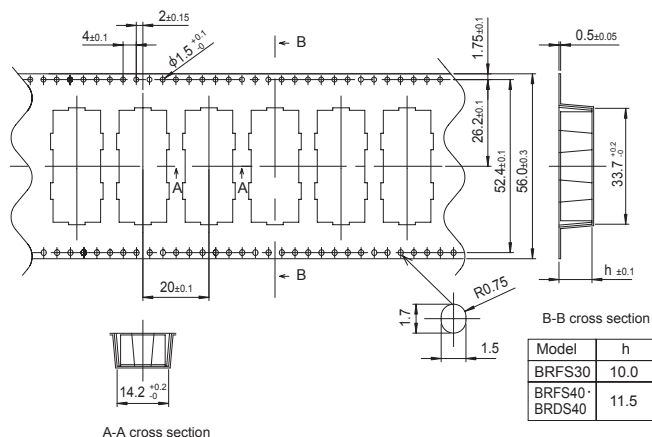

Fig.9.1 Taping dimensions of BRFS30/40 · BRDS40
- Please refer to a Fig.9.1 to Fig.9.4 for Package form (Reel).